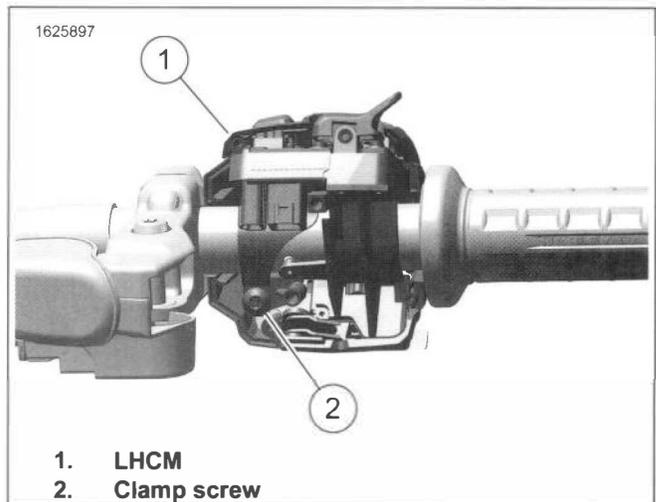

Figure 8-29. Clamping Screw
3. See Figure 8-29. Remove LHCM.
- a. Remove clamp screw (2).
1. See Figure 8-29. Install LHCM (1).
- b. Install clamp screw (2). Tighten.